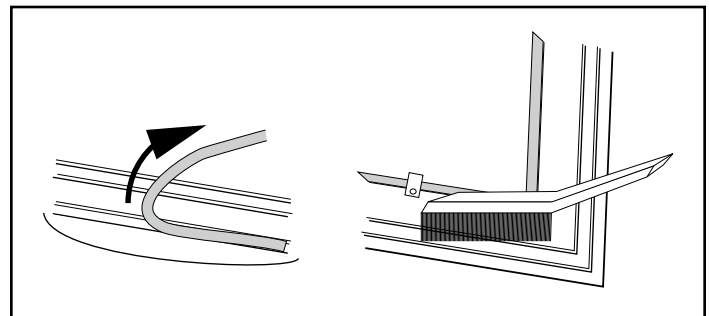

Figure 3.4 - Remove gasket then clean channel with wire brush.
1. Remove the existing gasket by grasping an end and pulling firmly, Figure 3.4.
2. Use a wire brush or the tip of a screwdriver to clean the channel of any remaining cement or bits of gasket. Remove stubborn deposits of cement with a cold chisel if necessary, Figure 3.4.